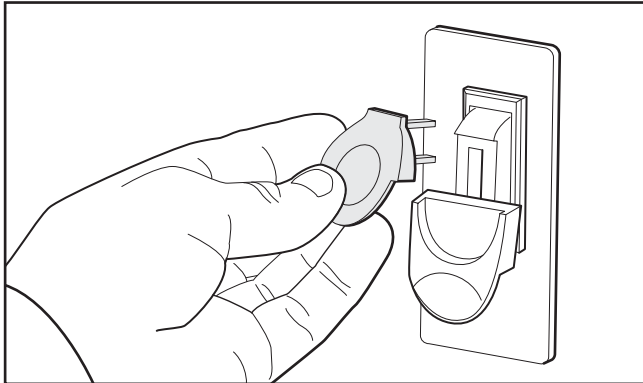

Figure 9. Removing switch key from paddle switch.
6. Remove the switch disabling key, as shown in **Figure 9**.